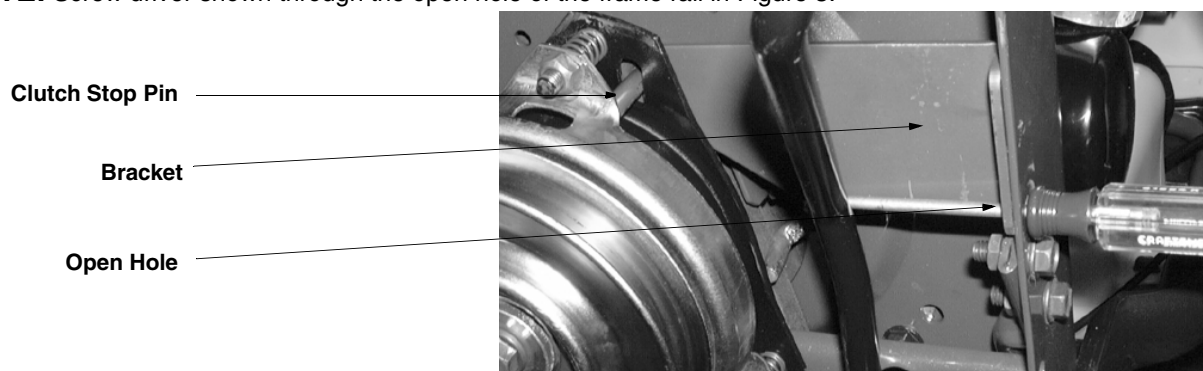

Figure 3
4. Place the Bracket in place and make sure the clutch stop pin locks into the electric PTO clutch hole. See Figure 3.
NOTE: Screw driver shown through the open hole of the frame rail in Figure 3.